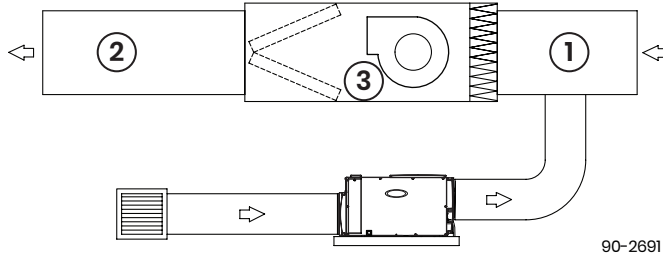

Figure 17: Discharge to Return Side
- Duct to the return side of the HVAC system for furnace applications where air is pushed through the AC coil. Check local codes to verify that ducting to the return side of the HVAC system is allowed (*see Figure 17*).